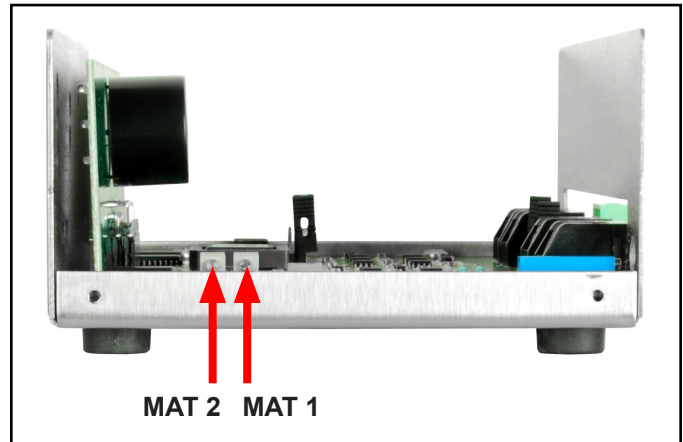

Figure 6. Mat test limit potentiometers
2. The respective potentiometers need to be adjusted fully clockwise. The pots are located inside the unit on the bottom board (see Figure 6).
4. Turn the appropriate potentiometer counter-clockwise until the GROUND LED illuminates red and alarm sounds (see Figure 6).